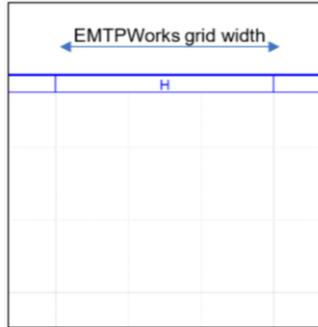

Figure 5: EMTWorks GUI grid
- **Scale factor:** The scale factor between the coordinates specified in the coordinate file and the Coordinate used in the EMTWorks GUI grid (see Figure 5). For example, if 200 is entered and the length unit of the values in the Coordinate file is miles, each grid division in EMTWorks is equivalent to 200miles.